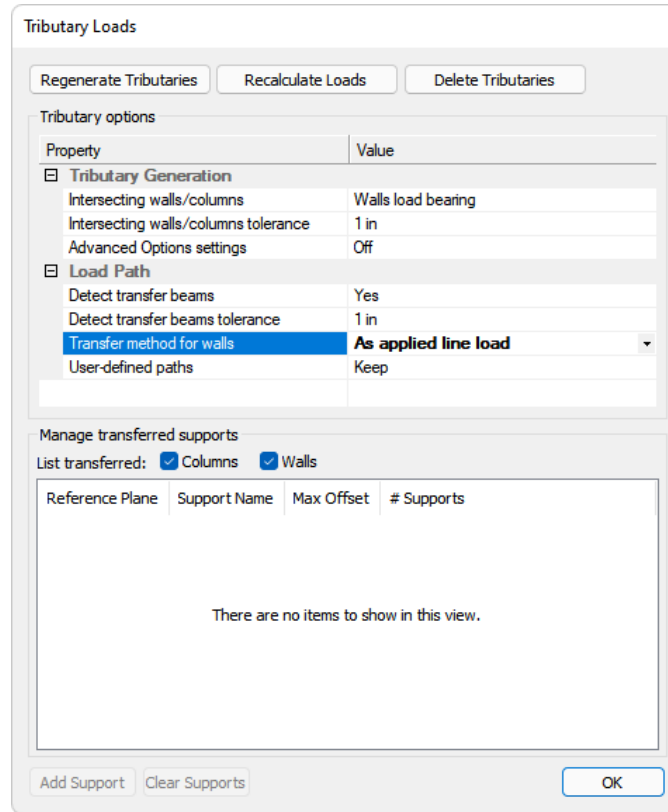

FIGURE 14-1
- Go to *Loading* → *Tributary* and click the **Load Takedown**  icon. **FIGURE 14-1** shows the Tributary Loads dialogue window. Use the default settings for all settings except for *Transfer method for walls*. For this setting, change the value to **As applied line load**. This setting is used to re-apply tributary loads transferred from one level to another as an applied line load, rather than relying on the defined load path, which requires walls to be concentrically stacked.